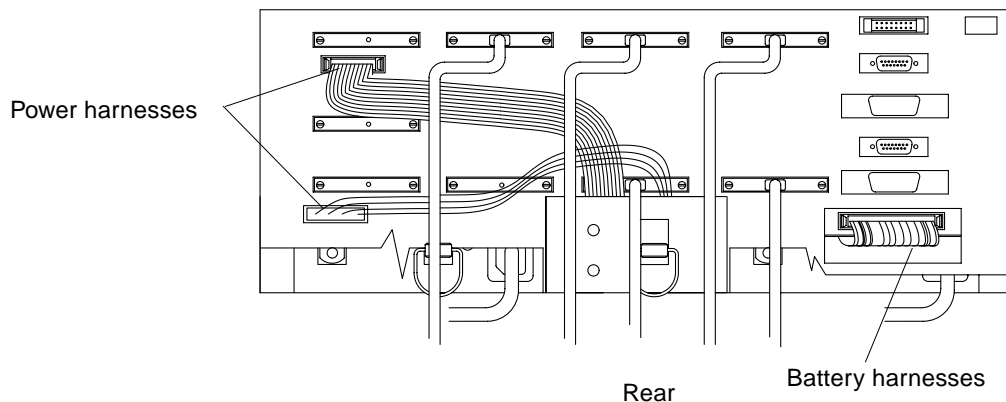

FIGURE 7-10 Battery and Power Harnesses on a SCSI Controller Module
- b. Disconnect the battery and power harnesses on the rear of the controller module.** FIGURE 7-10 shows the battery and power harnesses on the rear of a SCSI controller module.
- 8. Connect the battery and power harnesses (FIGURE 7-10).**